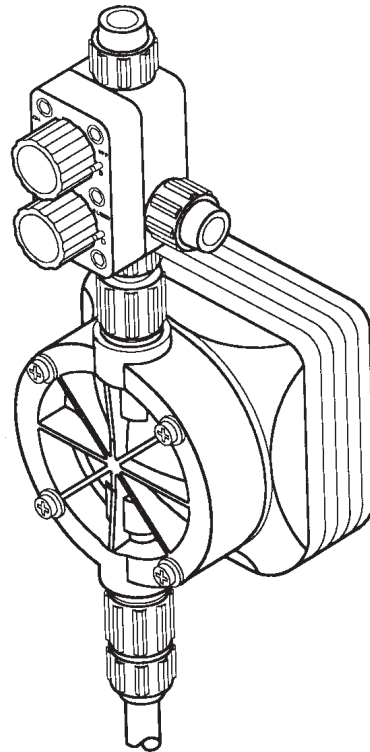

Figure 2.8
2.6 Five-Function Valve (See Figure 2.8)